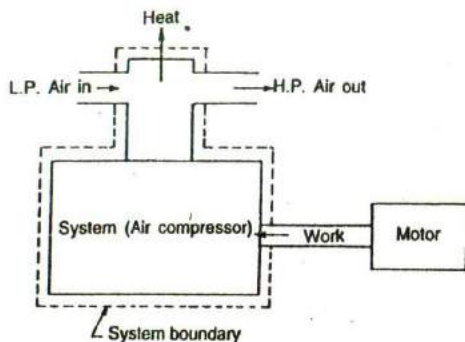

Fig. 1.3. Open thermodynamic system.
2. *Open system.* In this system, the mass of the working substance crosses the boundary of the system. Heat and work may also cross the boundary. Fig. 1.3 shows the diagram of an air compressor which illustrates an open system.